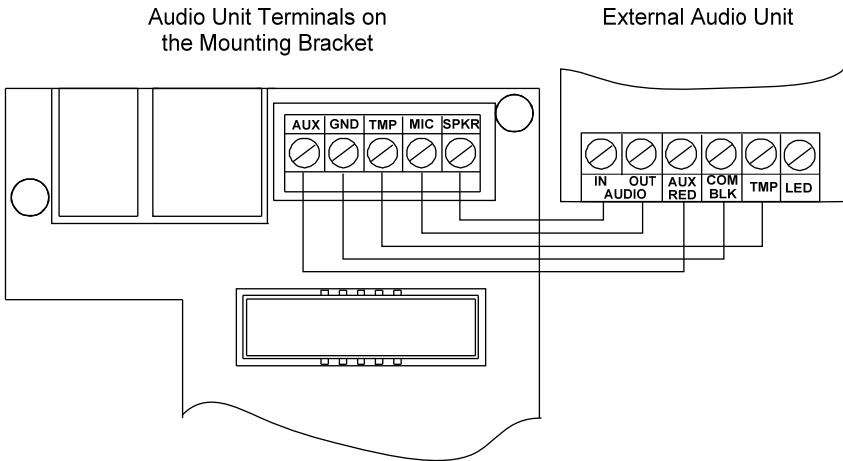

Figure 9: Wiring the External Audio Unit to Agility
1. Wire the Audio unit to the Agility as displayed in the Wiring Diagram described in Figure 9. The terminals for wiring the Audio Unit to the Agility are located on mounting bracket the Agility.